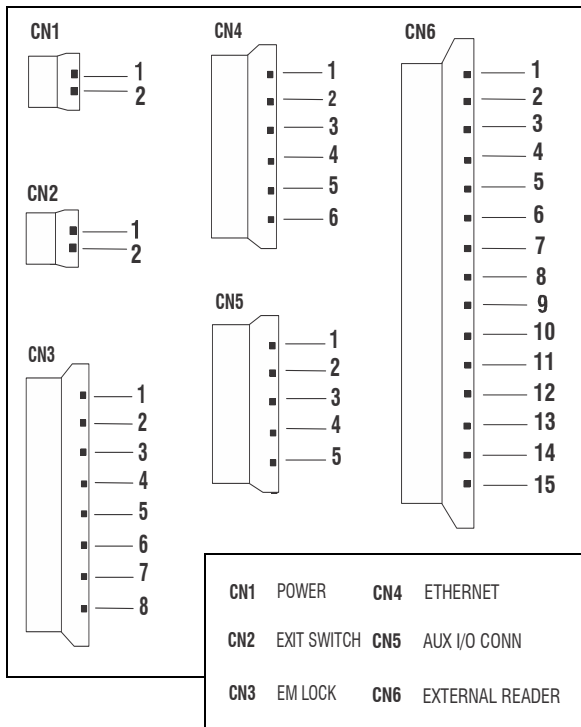

Fig. 5. Connector Terminals (CN1-6)
- Make the electrical connections. The connector terminals and their respective wire color code mappings have been illustrated in Figure 5.